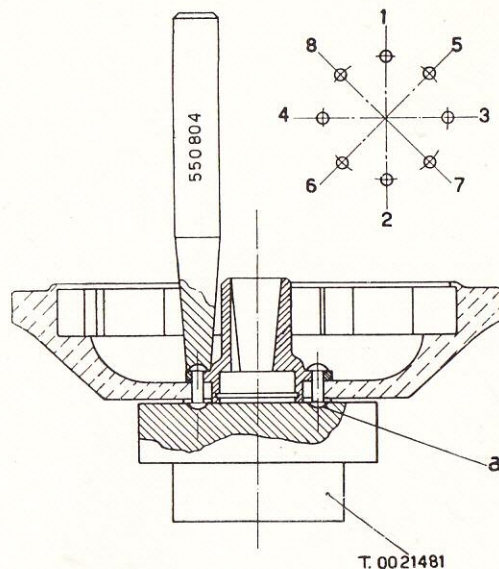

Fig. 75.
3. Remove washer "a" (see Fig. 75), then push the rivets out by means of the pin punch 550804.
outer face of rotor, then the cam and o/s size rivets; clench the latter, following the sequence as indicated in Fig. 75, by means of supporting block T. 0021481 and riveting punch 550804.